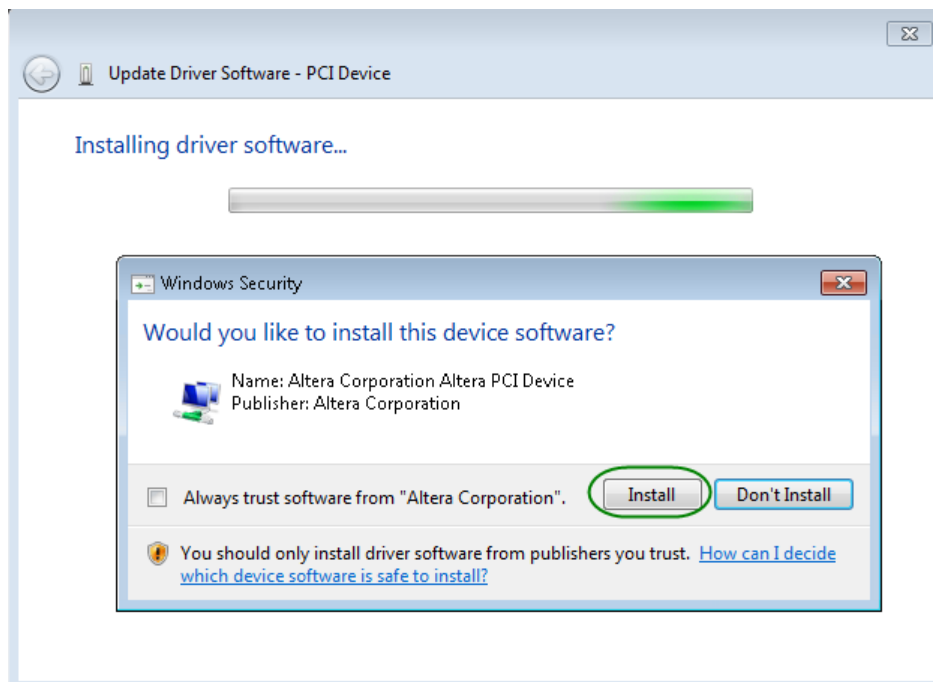

Figure 5-7 Click Install in the dialog of Windows Security
11. When the Windows Security dialog appears, as shown **Figure 5-7**, click the Install button.